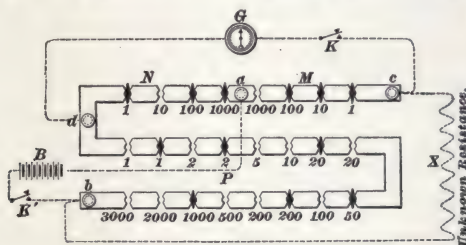

FIG. 42.
**54.** The actual various forms of resistance boxes used with the bridges differ widely from the diagram, but all are based upon this same principle and fundamental equation. A common pattern of resistance box for this purpose is constructed similar to the adjustable rheostat, as previously described, where the adjustments are made with removable plugs. Ordinarily, the contact pieces are arranged in the shape of a letter S, and the galvanometer and battery circuits are connected as shown in Fig. 42. The position of the two balance arms and the adjustable arm can be readily seen by comparing the connections of the battery and galvanometer circuits with those in the original diagram.  $K$  and  $K'$  represent keys for opening the circuits when the